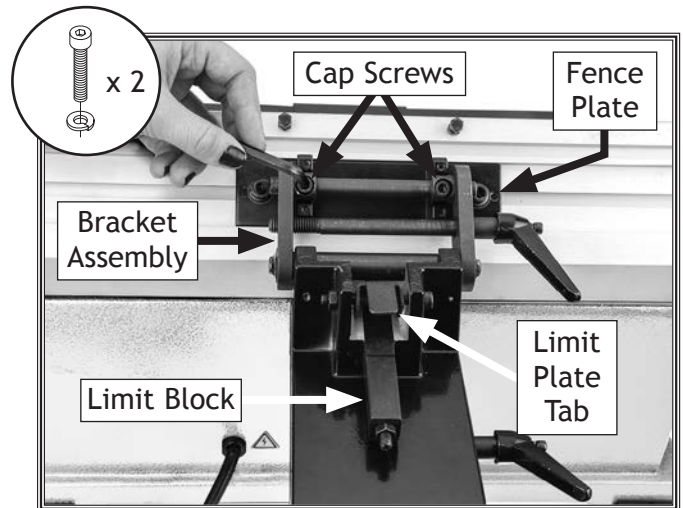

Figure 12. Attaching fence to fence bracket assembly.
- Press down on limit plate tab on fence assembly, and insert limit block with notched side facing upward. Use (2) M6-1 x 20 cap screws and (2) 6mm lock washers to attach fence to fence bracket assembly (see Figure 12).